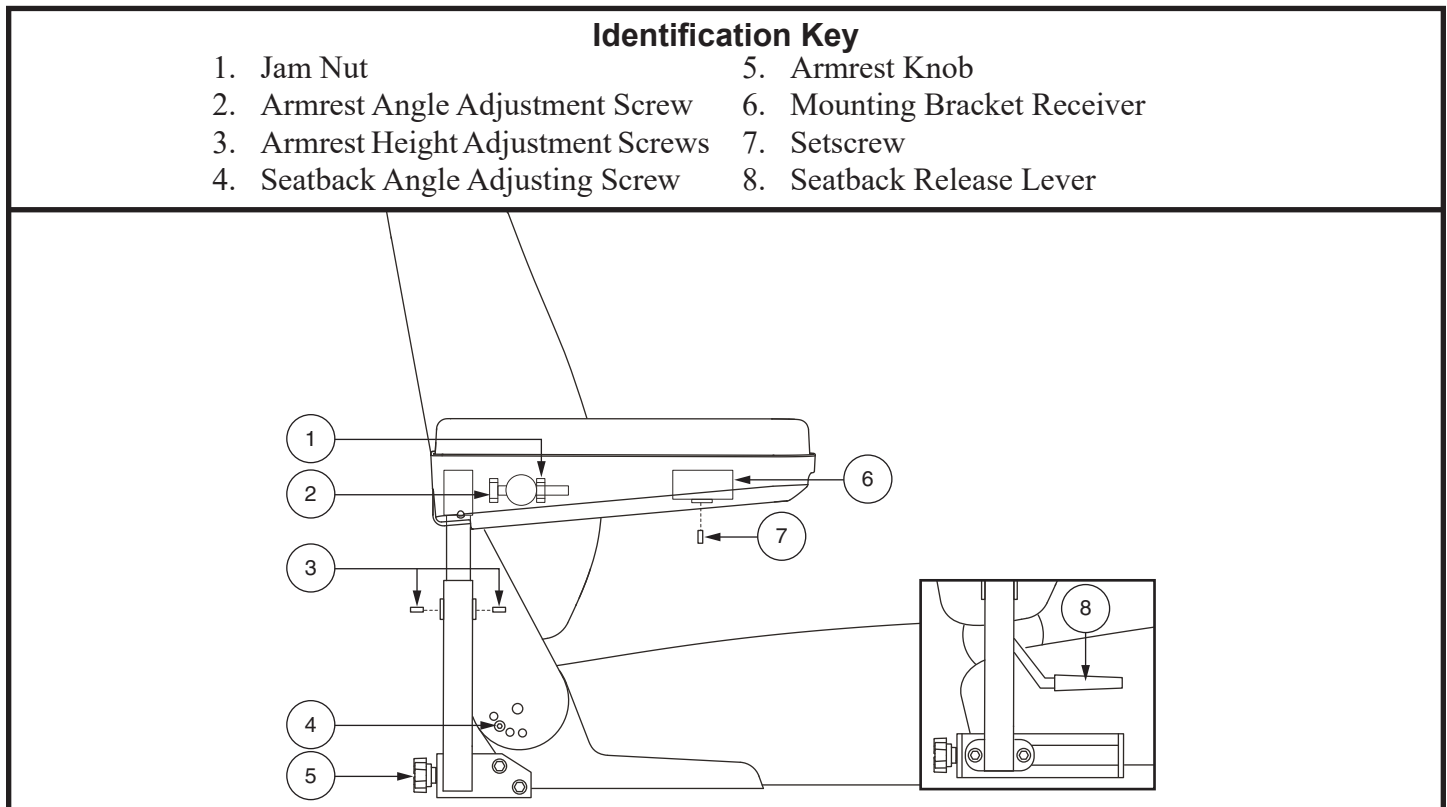

Figure 12. Armrest and Seatback Adjustments
If your power chair is equipped with a manual recline seatback, you can adjust the seatback angle using the seatback release lever. See figure 12.
1. Lift the armrest straight up so that it is perpendicular to the floor. See figure 12.
1. Loosen the setscrews on the armrest. See figure 12.
3. Loosen the setscrew on the controller bracket. **See figure 12.**
5. Loosen the setscrew on the underside of each armrest. **See figure 12.**